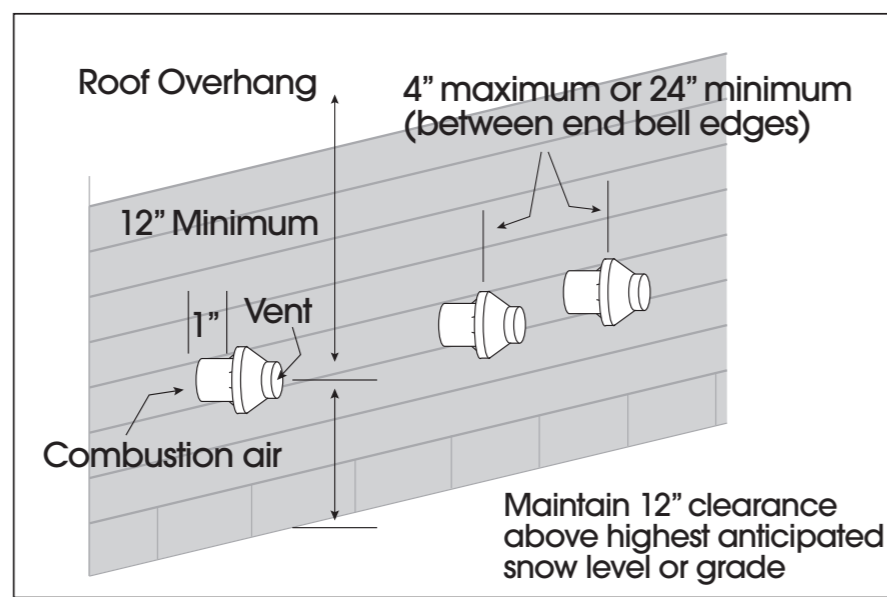

Figure 6—Sidewall Termination for Multiple Horizontal Concentric Vents
**NOTE:** Multiple Concentric Vent kits may be installed vertically following the same clearances between vent outlets as shown in Figure 6.